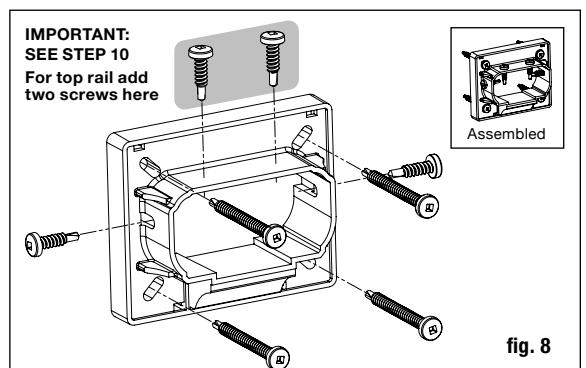

fig. 8
**Step 10** Place the line rail bracket covers and line brackets on the ends of the top rail. Position the top rail by placing the balusters inside the routed holes, while working from one end to the other. Check the rail for level. Using the line bracket as a guide, mark the screw positions on the post sleeve and rail on both ends. Pre-drill 1/8" pilot holes through the post sleeve and rail. Attach the line bracket to the post sleeve using four #8-15 x 2" - #2 square drive pan head screws and then attach line bracket to rail using four #10-16 x 3/4" - #2 square drive pan head self-drilling screws. **Important: For the top rail only, pre-drill and attach two additional screws through the top of the bracket, into the top rail (fig. 8).**
**Step 9** Place the stair rail bracket covers and stair brackets on the ends of the top rail. Position the top rail by placing the balusters inside the routed holes, while working from one end to the other. Center the stair bracket on the post. Using the stair bracket as a guide, mark the screw positions on the post sleeve and rail on both ends. Pre-drill 1/8" pilot holes through the post sleeve and rail. Attach the stair bracket to the post sleeve using four #8-15 x 2" - #2 square drive flat head screws and then attach stair bracket to rail using four #8-16 x 3/4" - #1 square drive wafer head self-drilling screws. **Important: For the top rail only, pre-drill and attach two additional screws through the top of the bracket, into the top rail (fig. 8).**
**Étape 10** Placez les couvre-supports et support de traverse aux extrémités de la traverse supérieure. Positionnez la traverse du haut en plaçant les balustres à l'intérieur des trous fraisés, tout en travaillant d'une extrémité à l'autre. Vérifiez que la traverse est à niveau. En utilisant le support comme guide, marquez la position des vis sur le manchon de poteau et sur les deux extrémités de la traverse. Percez des trous de guidage de 0,3 cm (1/8 po) dans le manchon de poteau et la traverse. Fixez le support au manchon de poteau grâce à quatre vis à tête carrées n° 8-15 x 5 cm (2 po) - n° 2, puis fixez le support à la traverse en utilisant quatre vis à têtes carrées autotaraudeuses n° 10-16 x 1,9 cm (3/4 po) - n° 2. **Important : Pour la traverse supérieure uniquement, veuillez pré-percer des trous et fixer deux vis supplémentaires à travers la partie supérieure du support dans la traverse supérieure (fig. 8).**